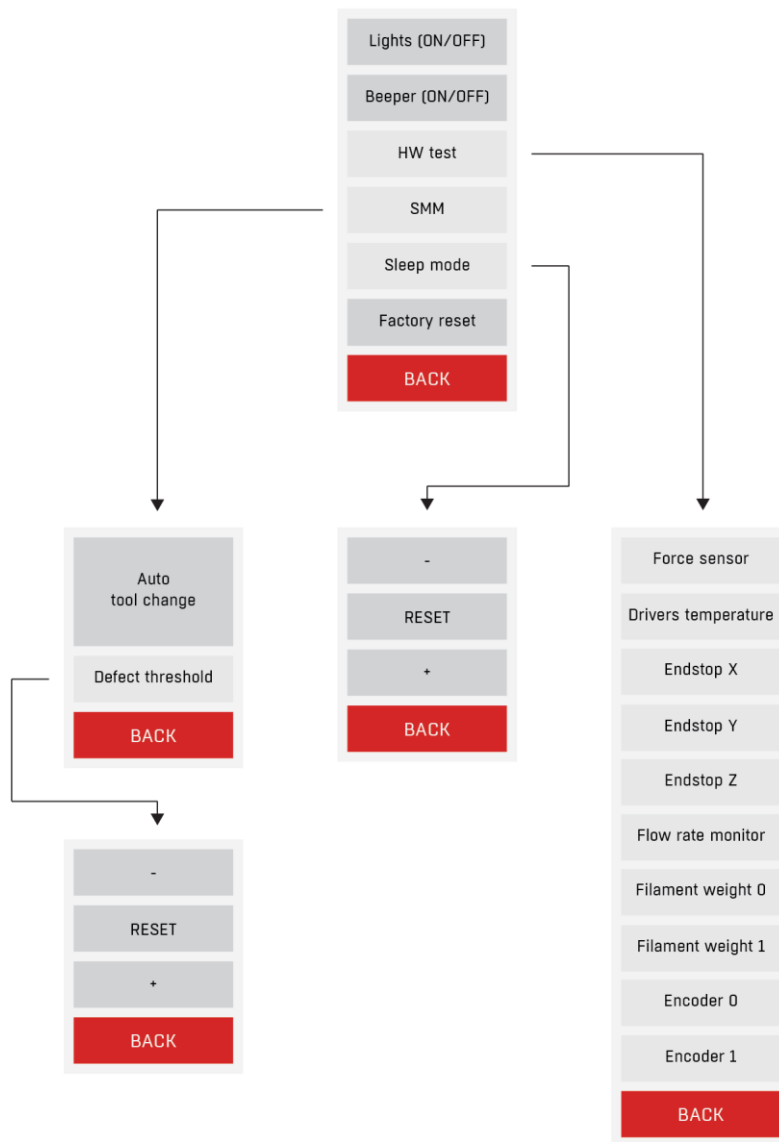

Fig. 53 Configuration menu structure
- configuration menu (CONFIGURATION) – fig. 53,